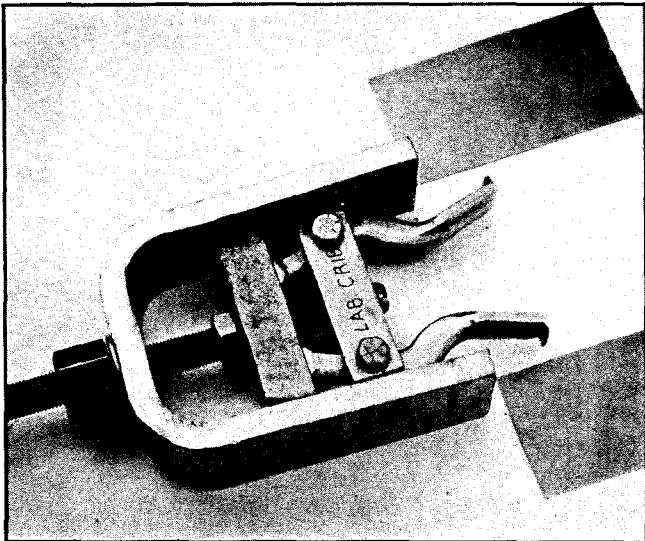
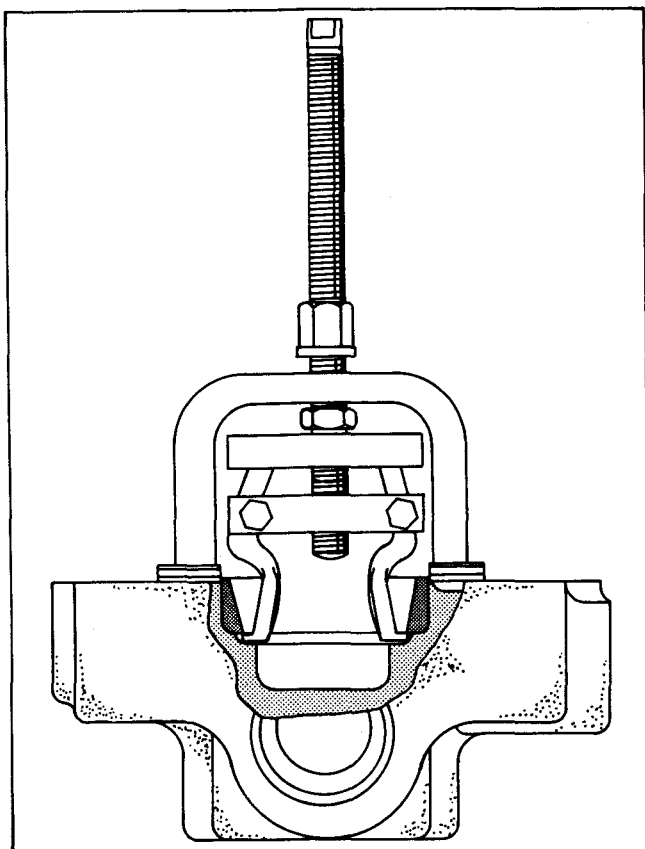

Figure 7. Valve Block Bearing Race Removal Tool.
Figure 12. Removal of race from blind hole of valve block
7. Disassemble valve block (2) as follows:
a. Remove two locating pins (19) if damaged, be careful not to scratch the face of valve block or housing during removal.
b. Check bearing (5) for score marks or brinelling of the rollers. If the shaft bearing (5) is defective, remove bearing race (5) from the valve block. Use tool shown in Figure 7 and refer to Figure 12 for removal information. If unit is a through shaft model, remove rear shaft seal (25) from valve block (2). See insert view on Figure 10.
8. Remove swash plate (20) from housing (3).